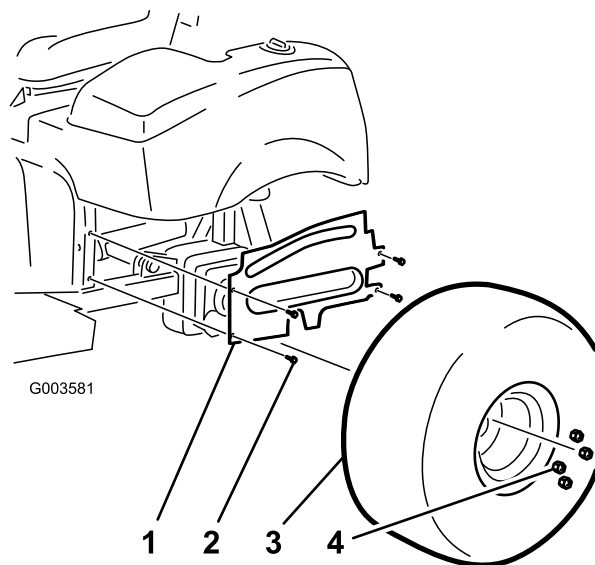

Figure 4
- Remove the 4 flange-head screws securing the left wheel shroud to the frame (Figure 4). Remove and retain the shroud.